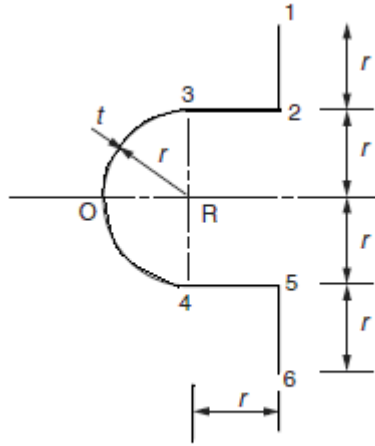

Figure 9:
5. The thin walled section shown in Figure 9 is constrained to twist about an axis through R, the centre of the semicircular wall. Calculate the maximum shear stress in the section per unit torque and the warping distribution per unit rate of twist. Also compare the value of warping displacement at the point 1 with that corresponding to the section being constrained to twist about an axis through the point O and state what effect this movement has on the maximum shear stress and the torsional stiffness of the section. [16]